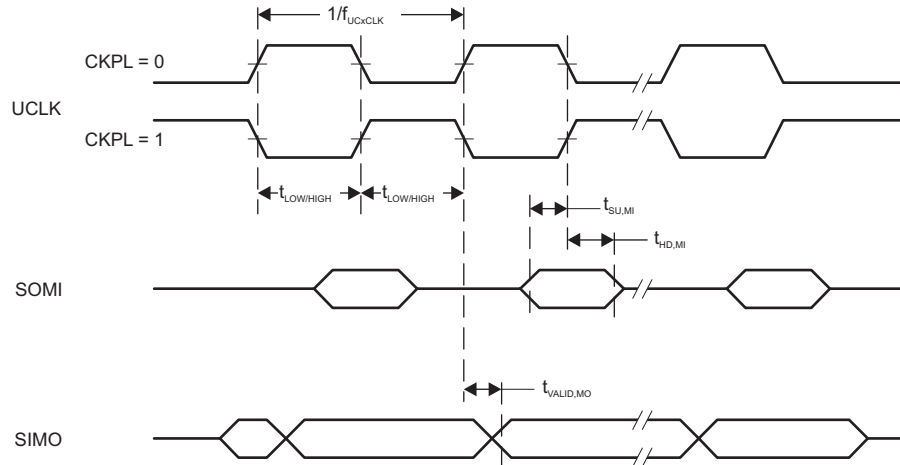
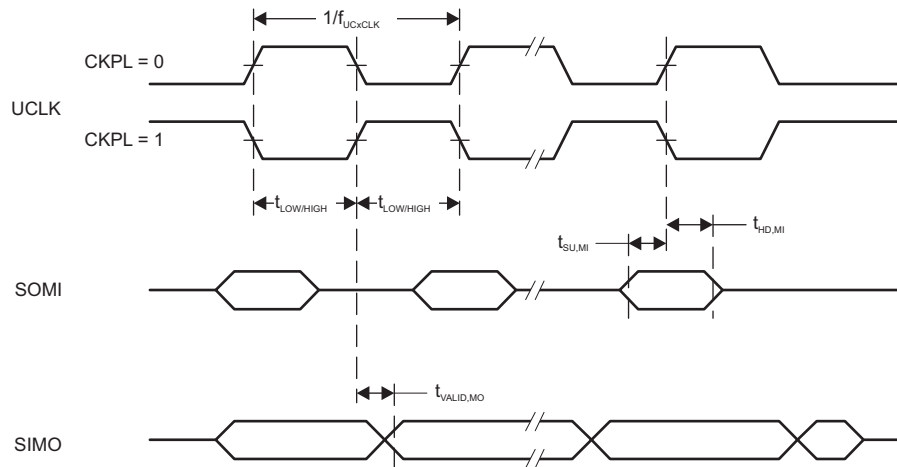

图 5-11. SPI Master Mode, CKPH = 0
图 5-12. SPI Master Mode, CKPH = 1
(2) Specifies the time to drive the next valid data to the SIMO output after the output changing UCLK clock edge. See the timing diagrams in 图 5-11 and 图 5-12.
(3) Specifies how long data on the SIMO output is valid after the output changing UCLK clock edge. Negative values indicate that the data on the SIMO output can become invalid before the output changing clock edge observed on UCLK. See the timing diagrams in 图 5-11 and 图 5-12.